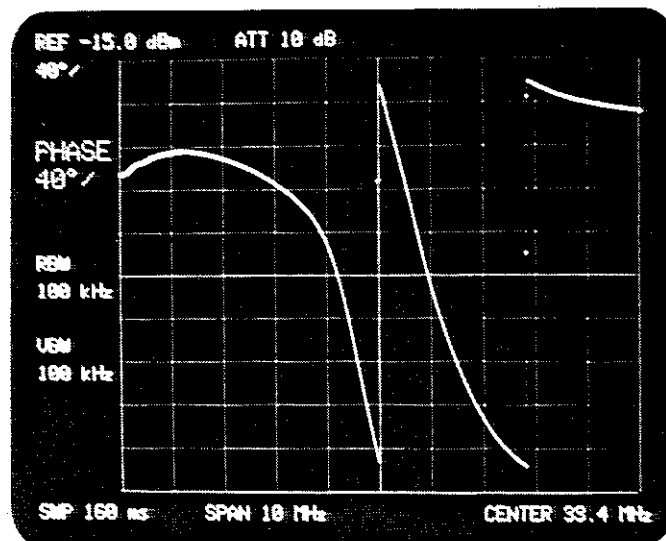

Fig. 7-6 Filter Phase Response
- (8) The phase response of the filter can be observed by connecting it to the measurement system. (See Figure 7-6.)
- (10) To obtain a better resolution for group delay measurement, it is necessary to increase the phase measurement resolution shown in Figure 7-6.